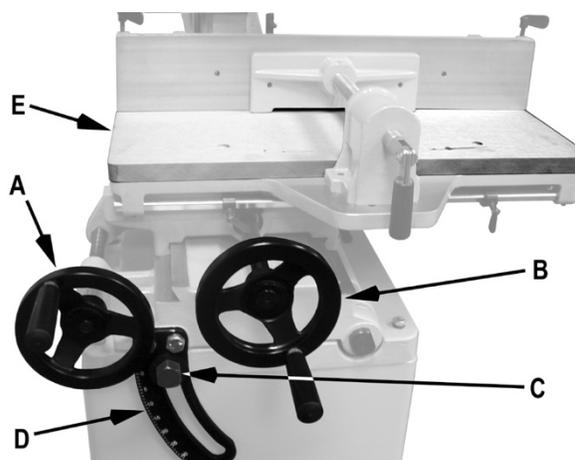

Figure 15
The 719T Mortiser is equipped with two handwheels for table (E, Fig. 15) positioning. In addition, the table can be tilted up to 35° for angle mortising.
- Turn the *handwheel* (A, Fig. 15) to move the table the *forward* or *backward*.
- Turn the *handwheel* (B, Fig. 15) to move the table to the *right* or *left*.
- Loosen bolt (C, Fig. 15) with the 23mm wrench provided.
- Pivot the table to adjust the angle up to 35° using the scale (D) on the tilt bracket as a guide.
- Tighten the *bolt* (C).